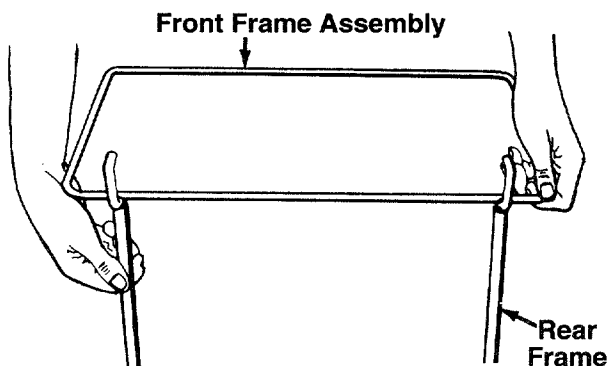

FIGURE 11.
1. Join the rear frame and front frame assembly as shown in figure 11.